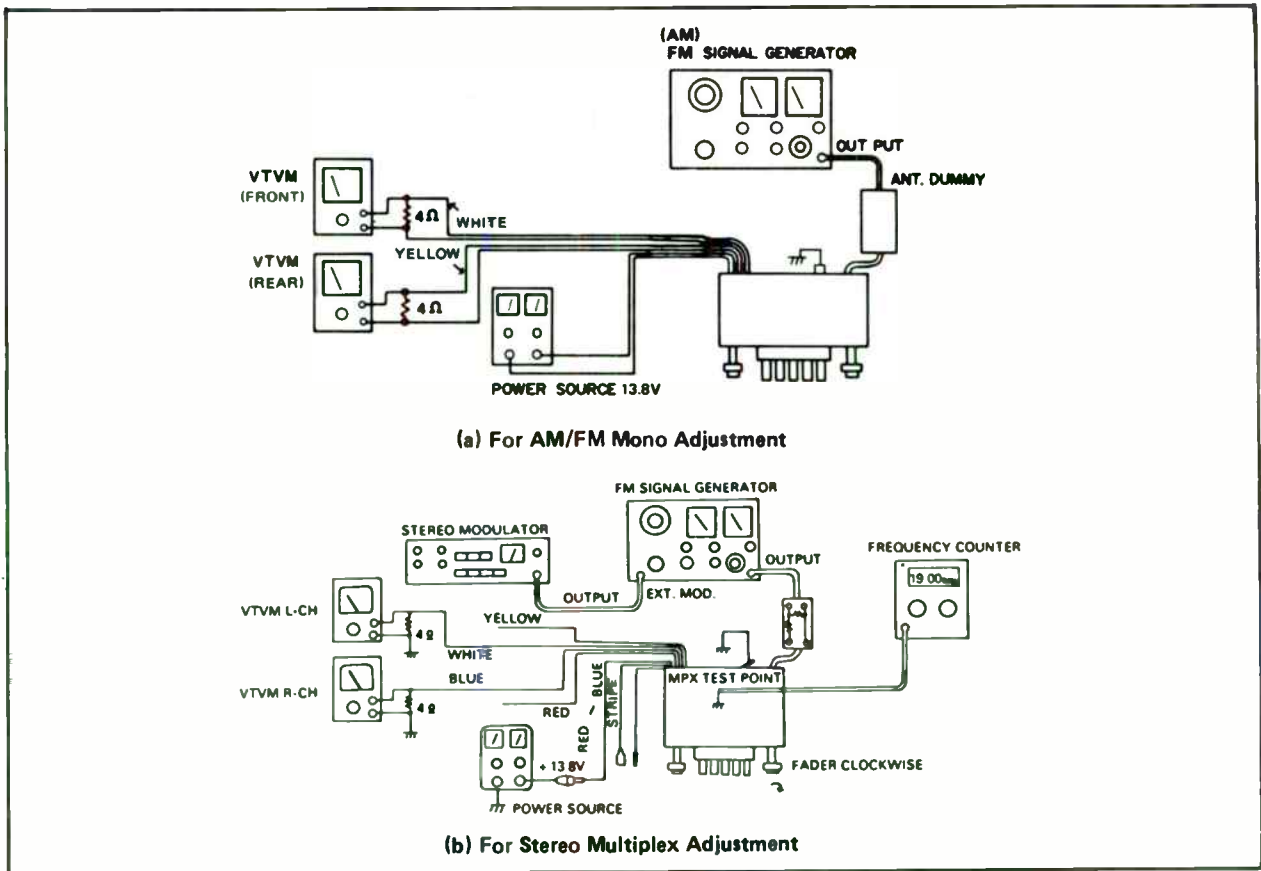

Figure 12. Test Equipment Connections
- 6) Refer to Figs. 12 and 13. Follow steps listed in Tables I and II.
- 5) Refer to Figs. 12 and 13. Follow steps listed in Tables III and IV.
- 1) Make connections as shown in Fig. 12, feeding modulated signal into radio antenna jack, and connecting frequency counter to MPX test point, TP2 (See Fig. 13c).